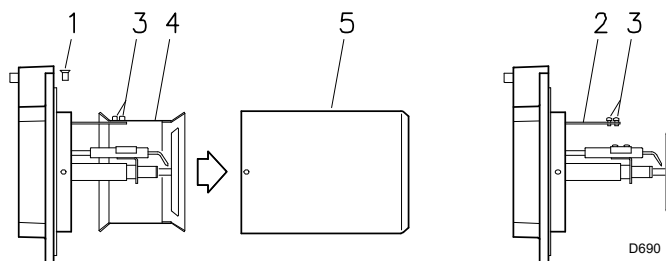

Fig. 12
- unscrew the screws 1)(Fig. 12) and disassemble the blast tube 5);